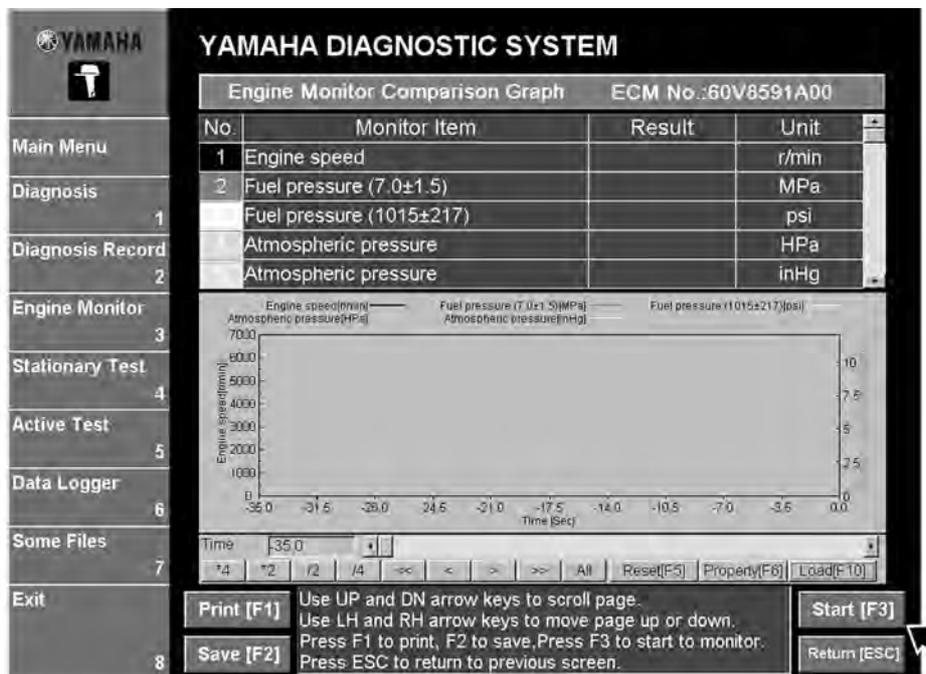

Fig. 56
- Click the **Start [F3]** button or press the F3 key to begin graphing. Once monitoring has started, the button name changes to **Stop [F3]**. The program automatically stops reading the signal data when the specified time elapses. (Fig. 56)
- When you are finished with graphic monitoring, click the **Return [Esc]** button (or press the ESC key). (Fig. 56)